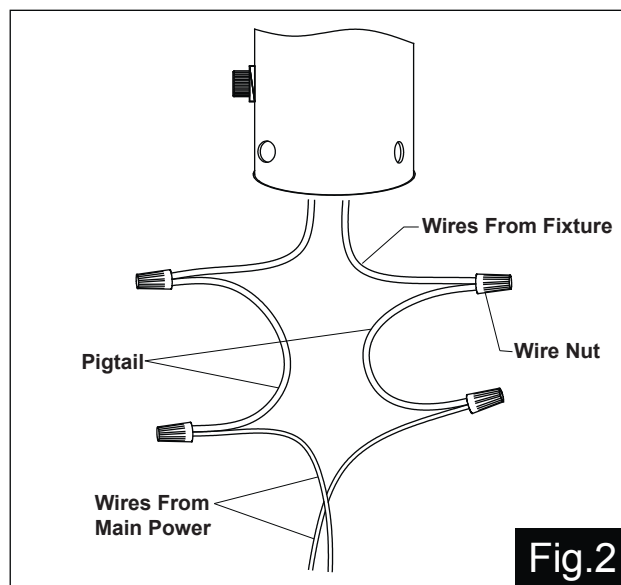

Fig.2
3. Take a white pigtail and black pigtail and make wire connections using wire nuts: (See Fig.2)